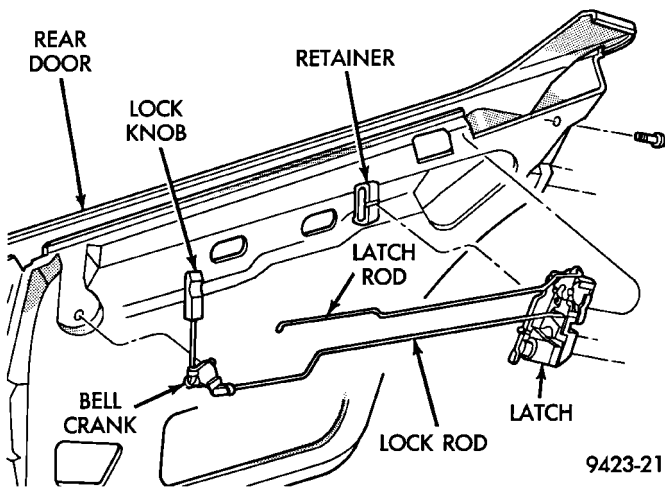

Fig. 49 Rear Door Latch
- (1) Remove door trim panel and water shield.
- (2) Close door glass.
- (3) Disconnect lock and latch rods from door latch.
- (4) Disengage wire connector from power door lock motor, if equipped.
- (5) Remove screws holding latch to door end frame (Fig. 49).
- (6) Separate door latch from vehicle.